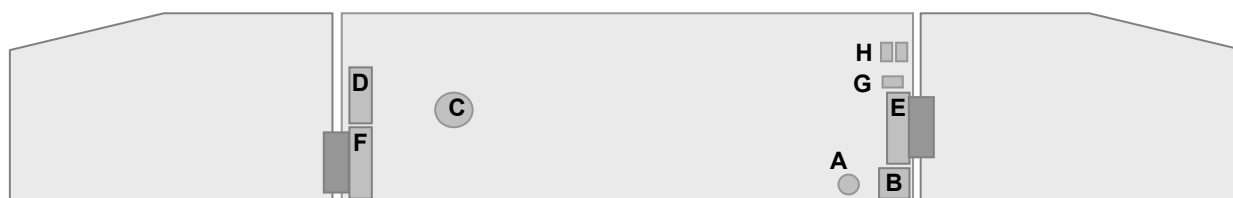

Figure 2: Connectors (back view)
The FCU is provided with a universal supply adapter that accepts a voltage of 100 to 240Vac (50/60Hz). Supply adapter and USB cable are provided with the FCU, you don't need further hardware to operate. Sockets for connections are on the back of panel (Figure 2). The two 20 pole sockets on sides (Figure 2 E and F) are provided for EFIS's connection; connect the flat cable of each EFIS to these sockets.
- Connect the USB cable to the FCU320 USB connector (Figure 2 "B") and the other side to a free USB port of your computer...
- Connect the DC power adapter to the FCU320 (Figure 2 "A") and plug the adapter to a main supply socket. The computer has to be switched on when you connect the FCU for the first time...
FCU320 comes provided with expansion capability through the DIN 5 pole auxiliary socket (Figure 2 “C”). This allows you to connect and interface CPflight plug&play expansion modules (Future development).
**WARNING! The use of auxiliary connectors (Figure 2 D and G) is intended for expertise users. To use the external backlight regulation it is necessary to weld wires to the provided 2 pole pin strip and connect these to your own switch or potentiometer. Do not attempt to connect anything different by the following indications; do not connect anything coming from any external power, warranty does not cover damages due to incorrect wiring of any external device.**
### EXTERNAL BACKLIGHT CONTROL (Figure 2 G)
### 16 POLE CONNECTOR (Figure 2 D)